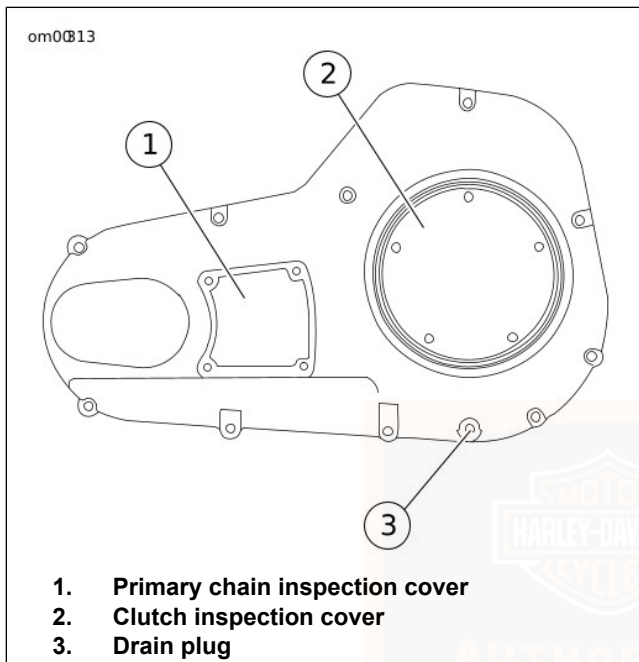

Figure 48. Primary Chain Inspection Cover: Touring Models
3. See Figure 48. On the left side of the vehicle, remove the T27 TORX screws to free the primary chain inspection cover from the primary chaincase cover.